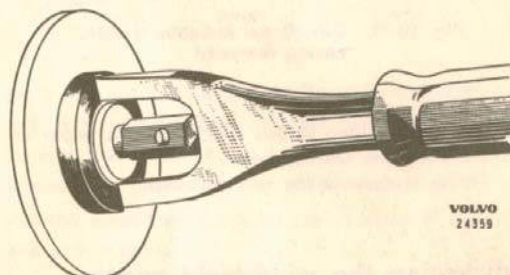

Fig. 10-72. Removing the switch
3. The switch is removed by unscrewing the nut with a suitable tool as shown in Fig. 10-72.